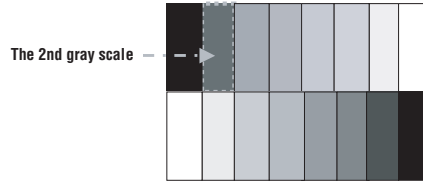

Fig.7
- 3) Adjust "BRTC" until the secondary gray bar just to be seen.(Fig.7).